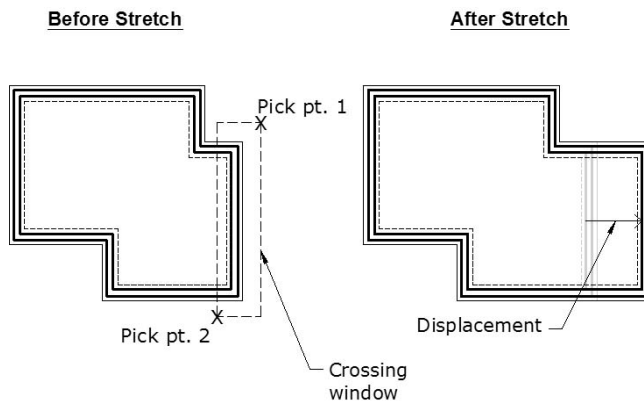

Figure 7-7:
- ✓ To use STRETCH, you must select objects by using a crossing selection box (or crossing polygon), as described in the section, “Perfecting Selecting,” earlier in this chapter. See Figure 7-7.